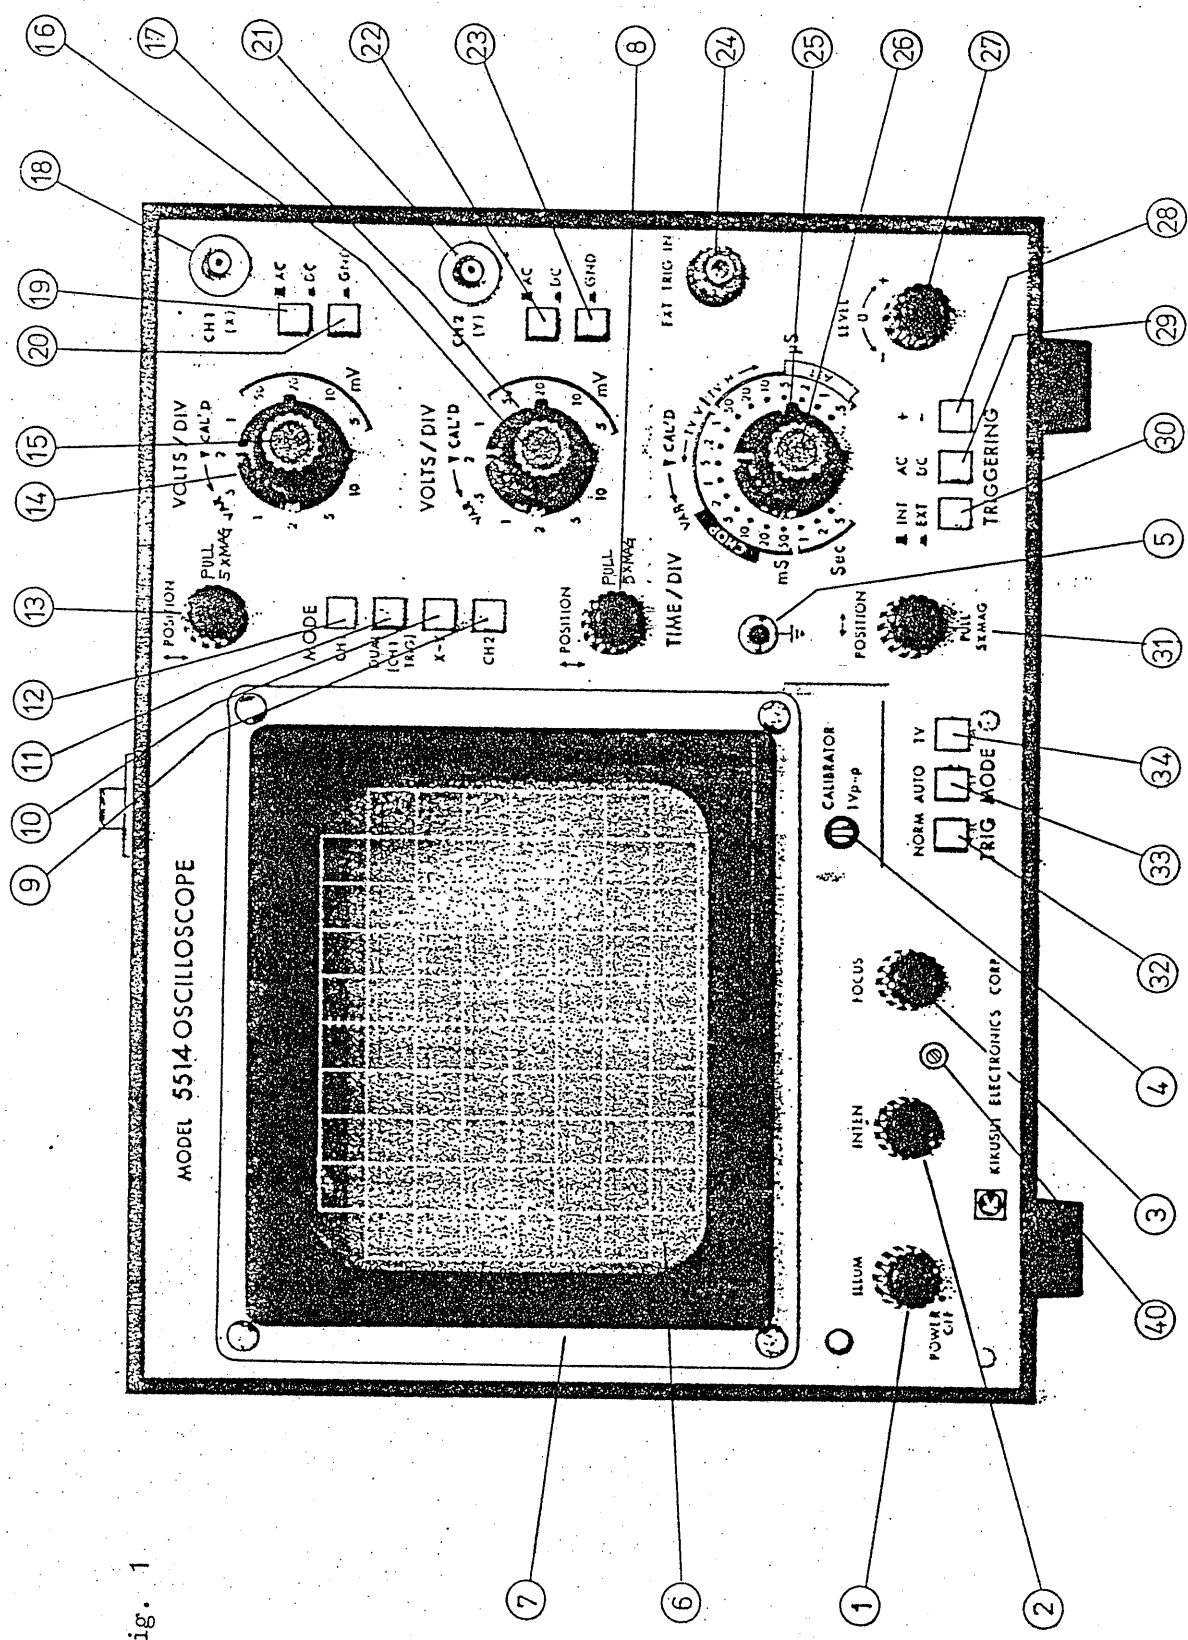

Fig. 1
3.1 Explanation of front panel (Refer to Fig. 1)
4.1 Initial operation (Refer to Fig. 1)